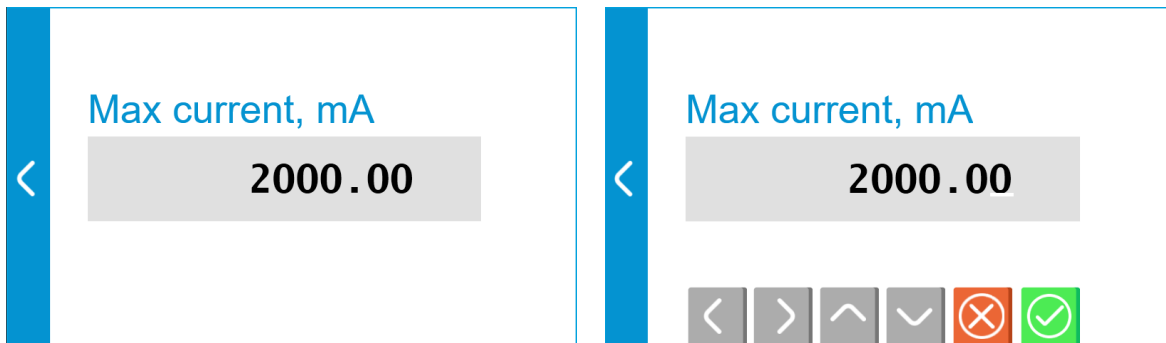

Figure 4 – Setting the parameter
6. To set the parameter select it from the list. The new window displays the parameter value stored in the laser memory. To change it, tap on the window (fig. 4). Use the left and right arrows to select the digit to change, use the up and down arrows to change the value. Press  button to save the changes and exit menu. Press  button to exit menu without changes.